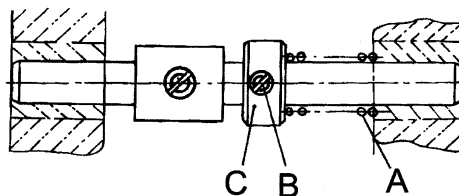

Fig. 14
The lateral pressure of the stationary and movable knife is activated by the spring (A, Fig. 14). Loosen the screw (B) in the collar (C) increases or decreases the pressure. Retighten screw (B).